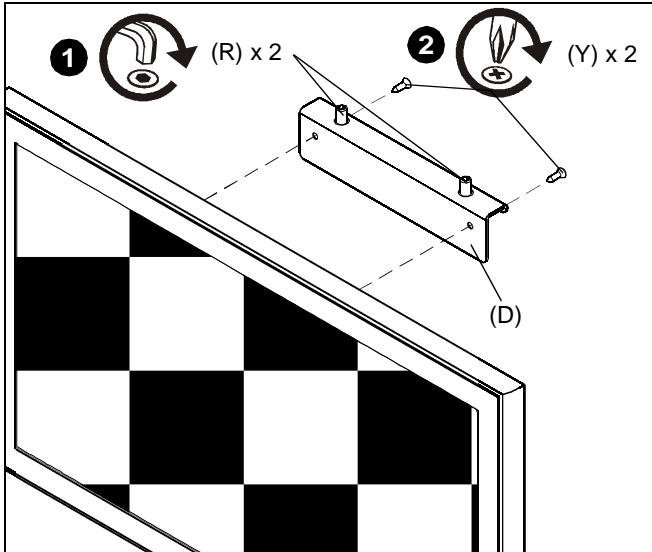

Figure 11
1. Partially insert two 1/4-20 x 5/8" set screws (R) into top of art bracket (D). (See Figure 11)
2. Center art bracket (D) against art and attach to back of art using two 06 x 1/2" Phillips flat head wood screws (Y). (See Figure 11)